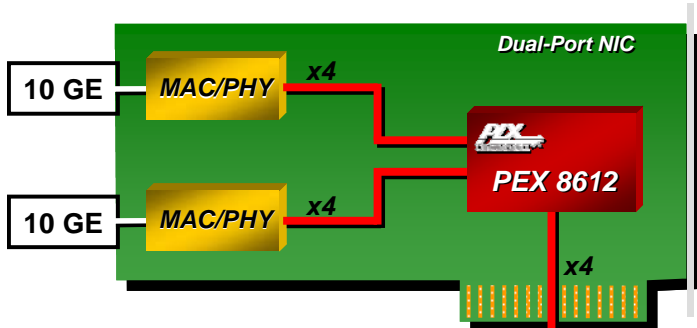

Figure 4. 10GE NIC Fan-Out
The PEX 8612 can also be utilized in communications applications such as Network Interface Cards (NICs). NICs, like the one shown in Figure 4, can utilize the PEX 8612 for its fan-out capabilities. In the example below, the PEX 8612 is being used on a Dual-port 10-Gigabit Ethernet (GE) NIC card. The PEX 8612 utilizes a x4 link to connect to the host and two x4 downstream links to fan-out to the 10GE ports. The peer-to-peer communication feature of the PEX 8612 allows the endpoints to communicate with each other without any intervention or management by the host.